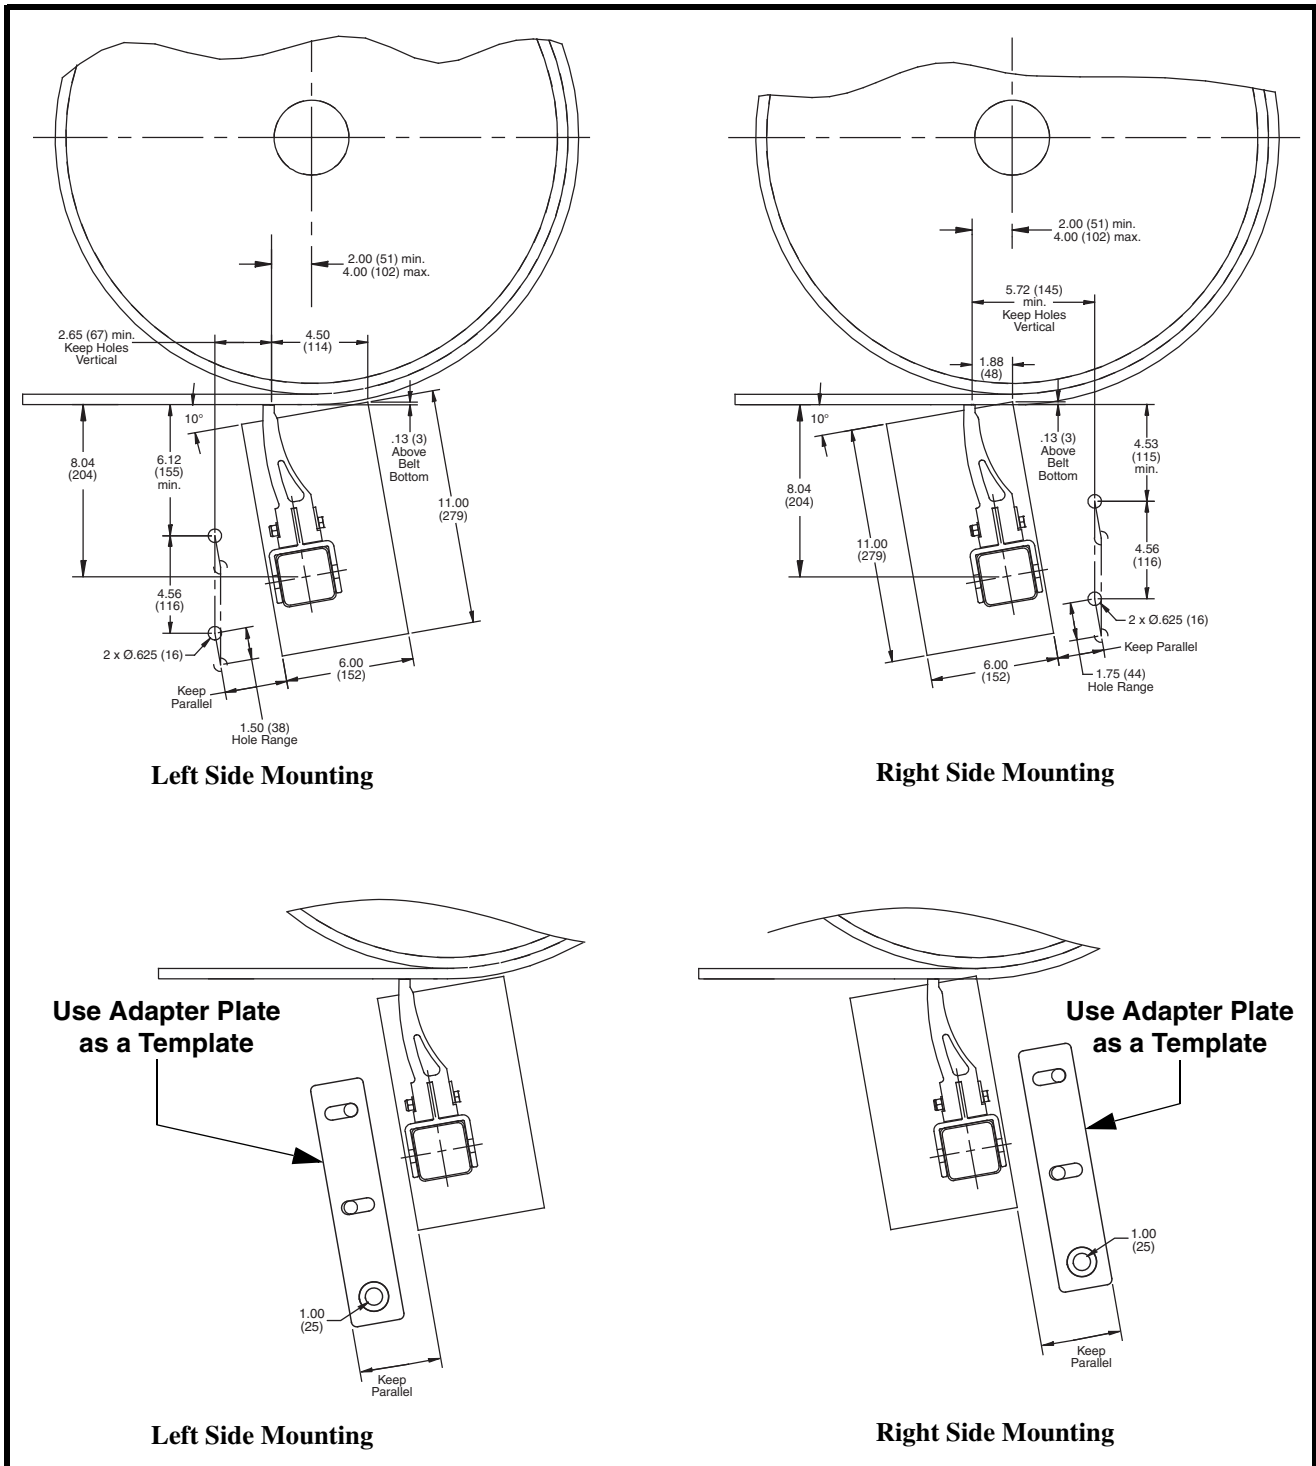
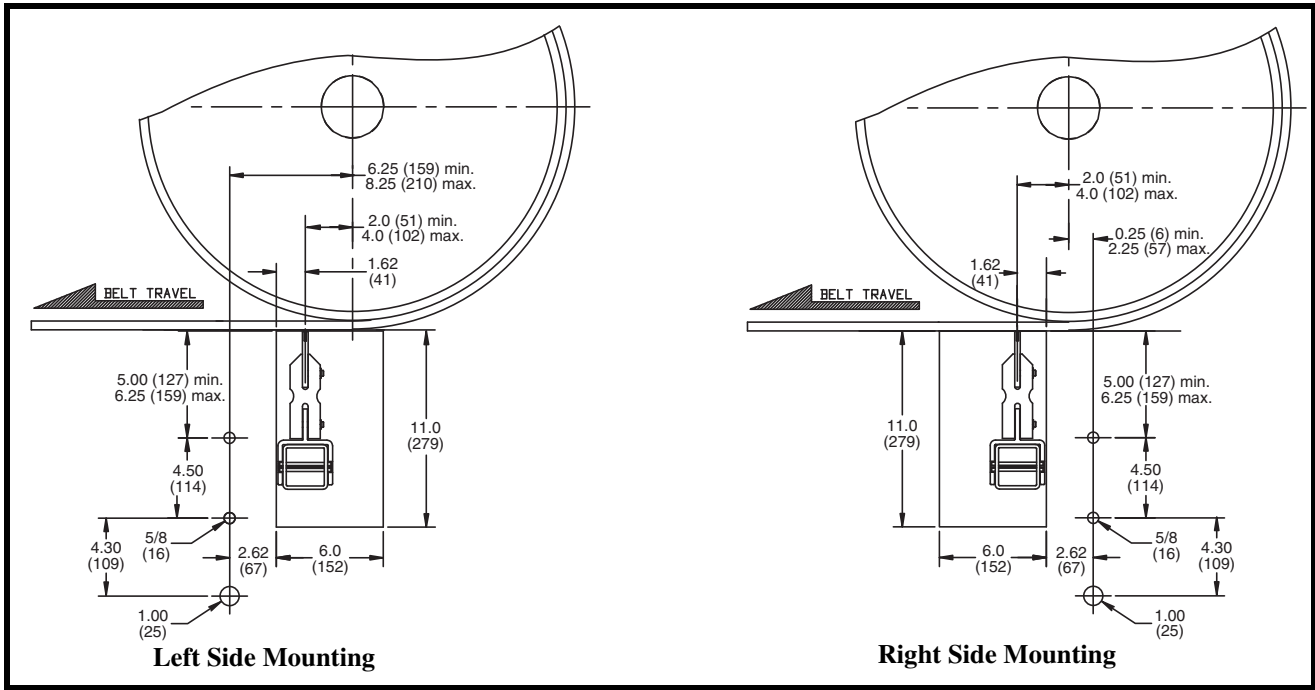

Figure 1. Martin® SAF2™ Blade Mounting Locations
Figure 2. Martin® SQC2S™ Blade & Martin® SAF2™ Reversing Blade Mounting Locations
1. Mark the chute cutout and mount hole locations for appropriate belt cleaner as shown in either Figure 1 or Figure 2. Repeat on both sides of chute, ensuring cutouts are accurately aligned with each other.
3. For belt cleaners using Martin® SAF2™ style blades, rotate tensioners up to 10° as shown in Figure 1.
4. Remove cap screws and nuts (E) from tensioners.
6. Slide blade cartridge onto mainframe with blade positioned as shown in Figure 1 or Figure 2. Push far side end of blade against stationary pin until it locks.